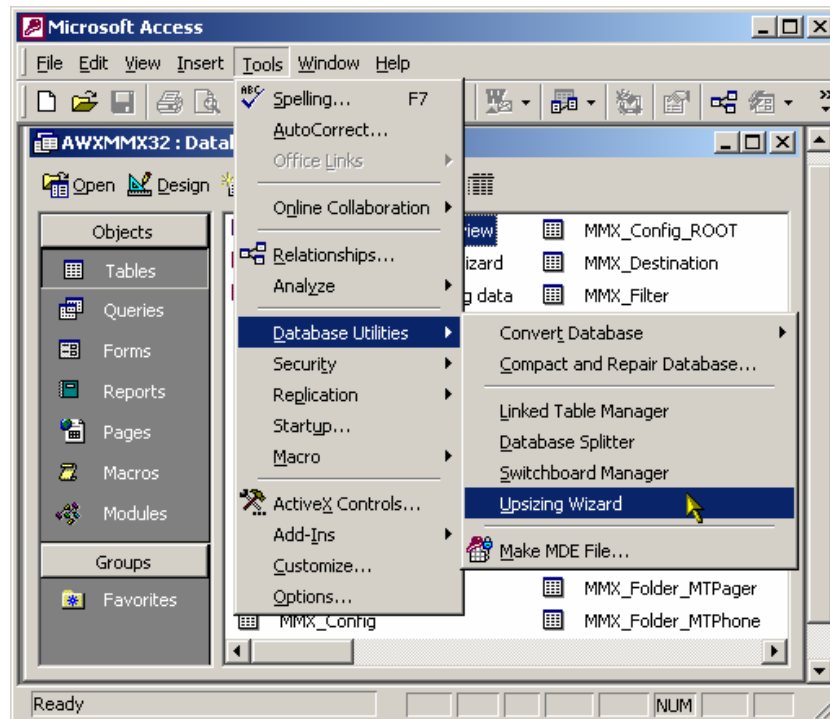

Figure D.4. "AWXMMX.mdb" Database File
2. From the **Tools** menu, select **Database Utilities - Upsizing Wizard**, as shown in **Figure D.4**. At this point, Access may give you the option to install the wizard. Follow the installation steps, and then run the Upsizing Wizard from the **Tools** menu.